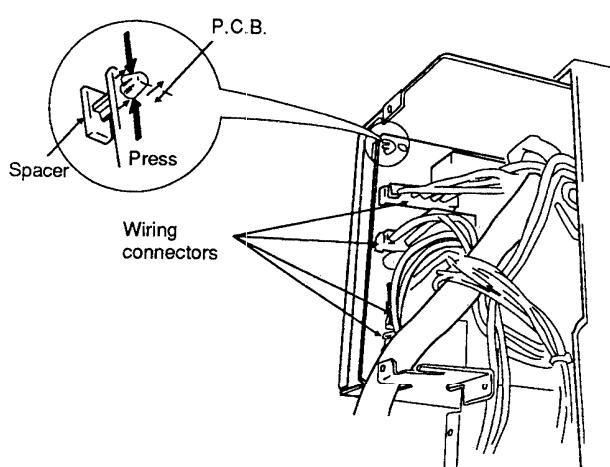

Fig. 19
- Disconnect the wiring connectors. (Fig. 19)
- Press each head of the 2 spacers to free the P.C.B. (Fig. 19)